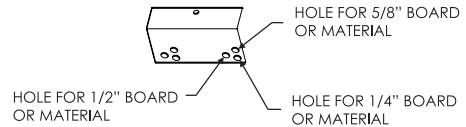
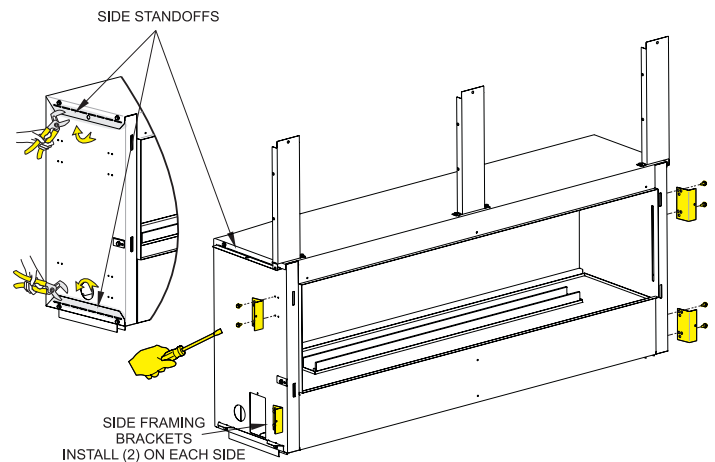

Figure 5
Figure 7
5. On the top and bottom of each side are side framing stand-offs. Use pliers to bend the side framing standoff 90 degrees away from the cabinet. See **Figure 7**.
6. Locate framing brackets in the envelope pack. The holes in the framing brackets allow different size boards and different locations for the boards. See **Figure 5**. Bend the brackets at 90° angles. Install four framing brackets with two 10 x 1/2 screws (each). See **Figures 7 and 8**. Use the front set of holes if mounting around fireplace window. Use the back set of holes if mounting around the fireplace face (top, sides and bottom). Note: The non-combustible board provided is 1/2" thick.